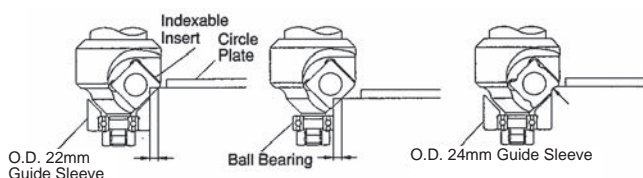

Fig. 13
- (3) Mount the Ball Bearing or the O.D.24mm Guide Sleeve and securely fasten the Hex. Nut. (Fig.13)